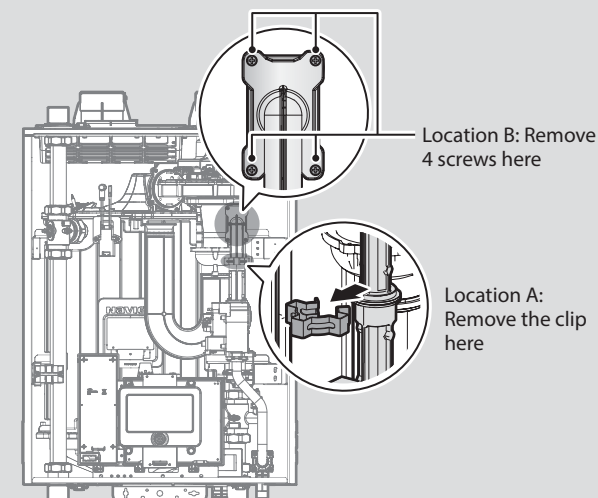

Figure 3. Detaching the Gas Valve Outlet Adapter from the Gas Valve and Fan Motor Assembly
- Remove the clip at location A – the connection above the gas valve where it connects to the gas valve outlet adapter. See Figure 3 for reference.